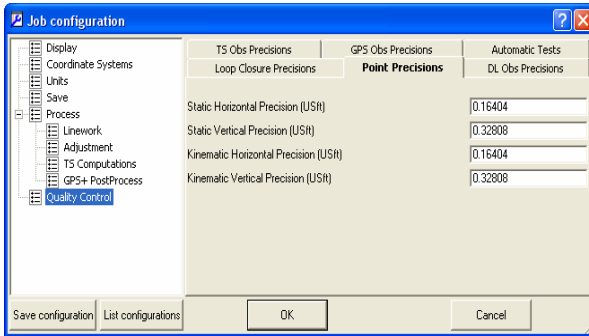

Figure 2-31. Job Configuration – Point Precisions
- The *Point Precisions* tab sets horizontal and vertical precisions for the coordinates of static and kinematic points (Figure 2-31). If horizontal (Std Dev Hz) and vertical (Std Dev u) residuals for a point are worse than the value in the settings in this tab, the point is highlighted in red in the *Points* tab, Map view, and Reports.